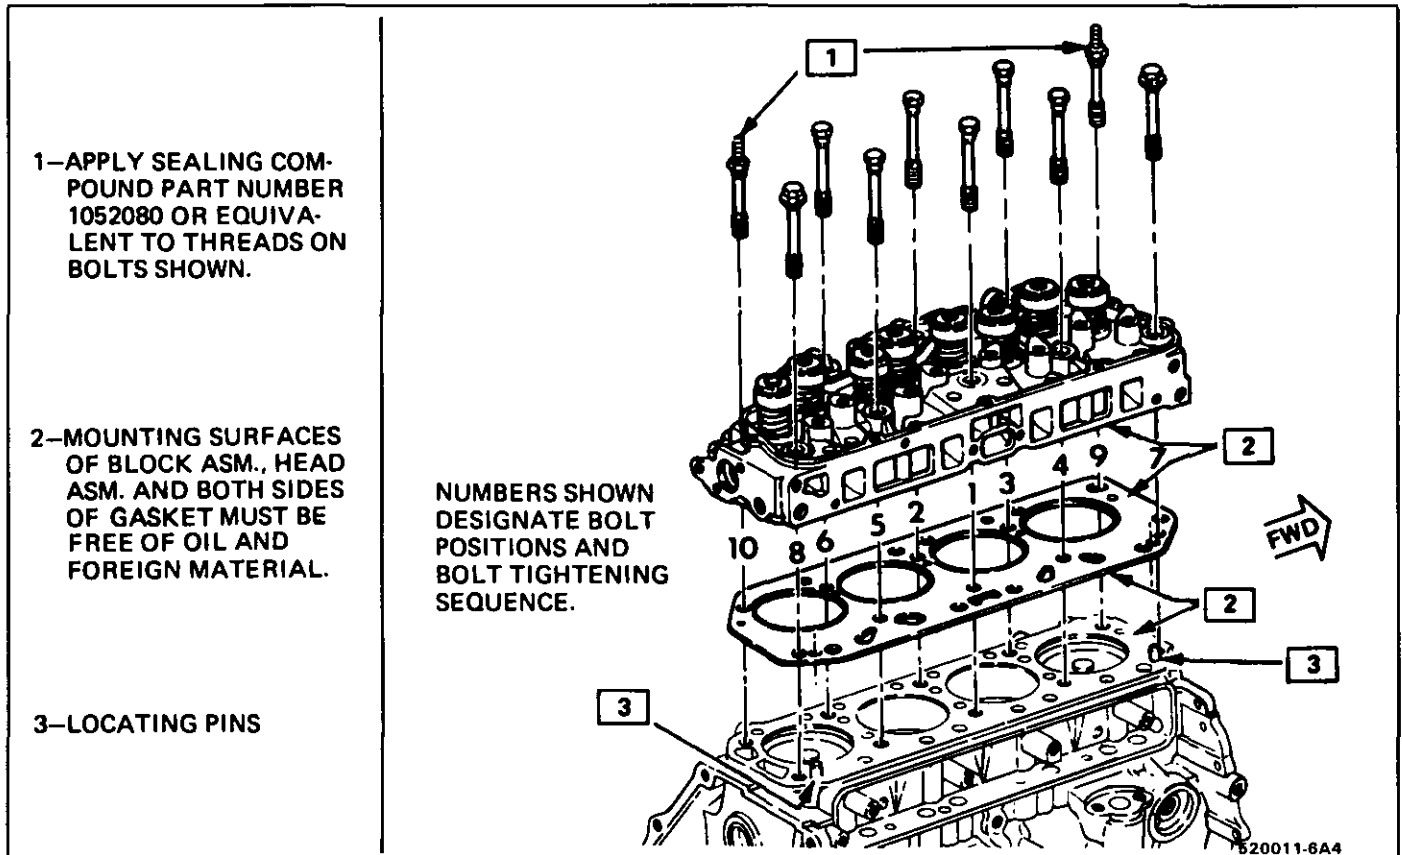

Fig. 11 Cylinder Head Tightening Sequence
- Cylinder head bolts gradually with torque wrench to 25 N·m (18 lb. ft.) in sequence shown in Fig. 11.